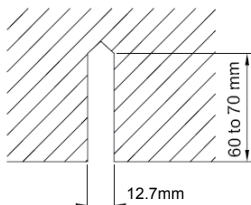

Fig.6
- (2). Install the bolts to the ceiling at a place strong enough to hang the unit. Mark the bolt positions from the installation template. With a concrete drill, drill for 12.7mm diameter holes. (Fig.6)